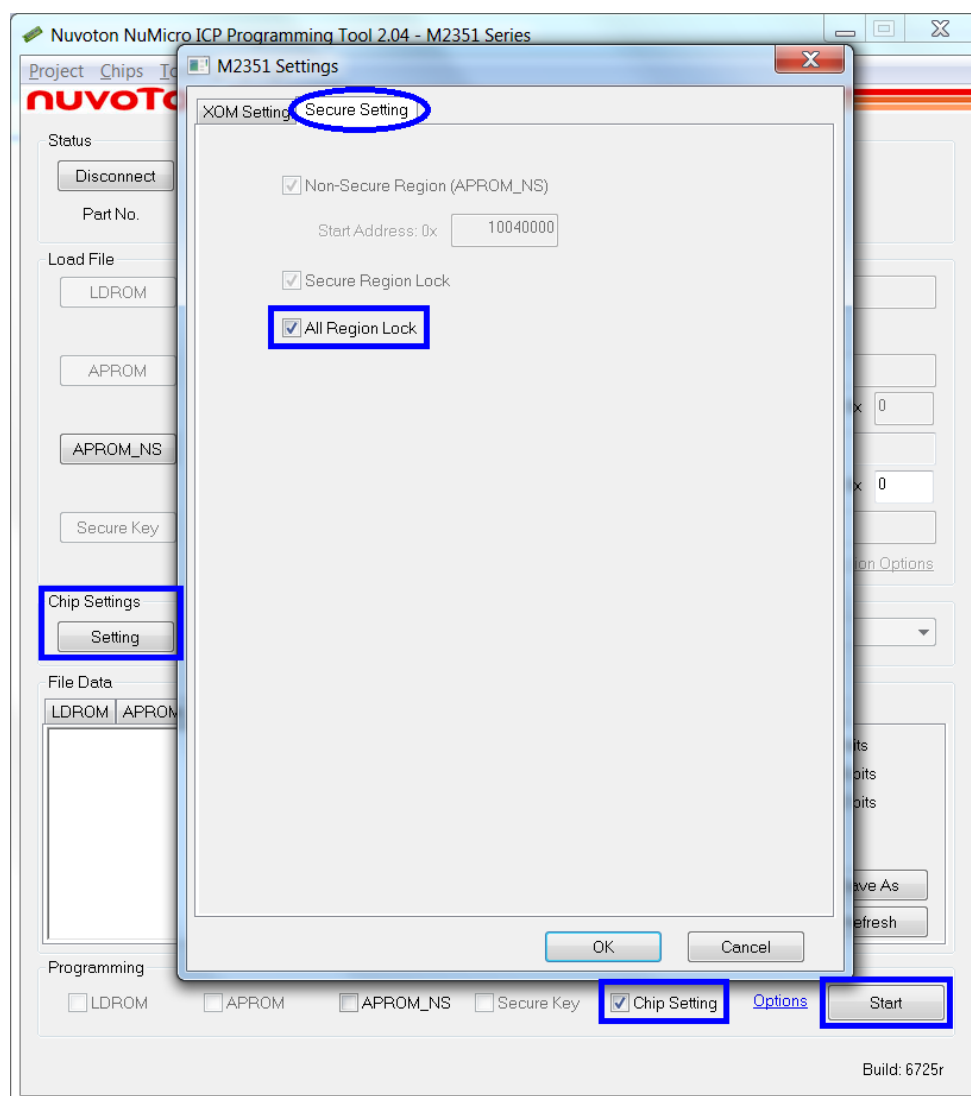

Figure 3-13 Setting Method of ARLOCK in ICP Programming Tool
1. Click [Setting] button under Chip Settings to open the Secure Setting page, as shown in Figure 3-13.